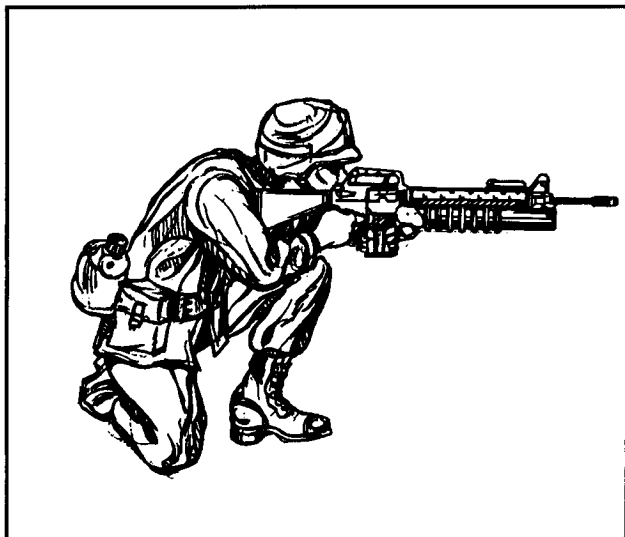

Figure 5-2. Kneeling position.
(2) **Kneeling position.** Figure 5-2 shows the kneeling position.